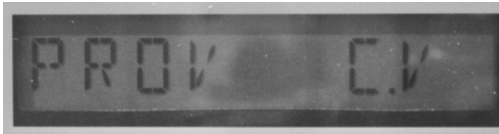

Figure 10.4 - LCD screen displays PROV C.V
- Using the magnet, swipe across the black dot, which is to the right of the LCD display screen, until the screen displays PROV C.V (Figure 10.4), and then stop swiping.